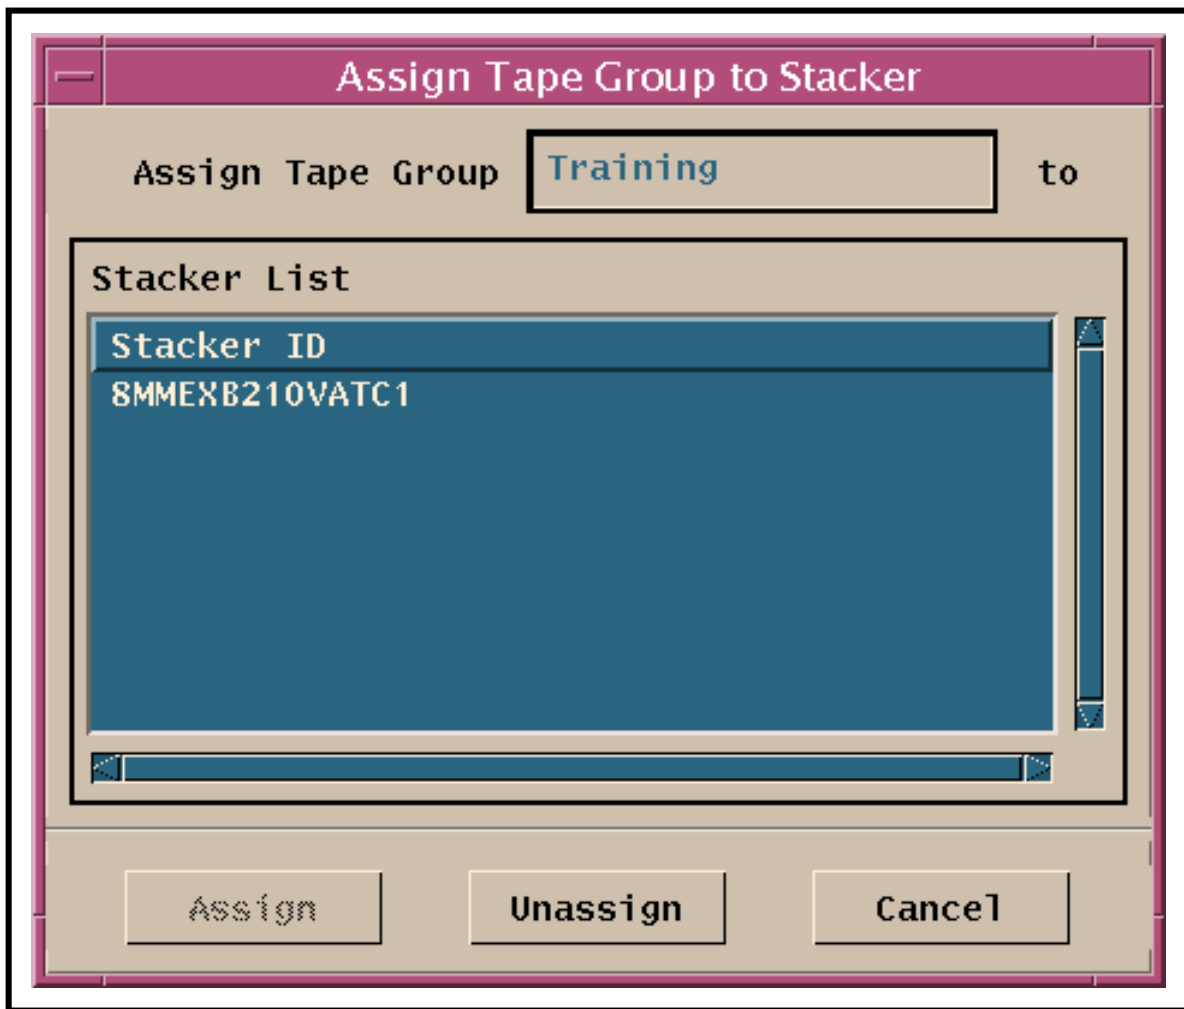

Figure 23. Assign Tape Group to Stacker Window (Storage Management Control GUI)
- The **Assign Tape Group to Stacker** window (Figure 23) is displayed.